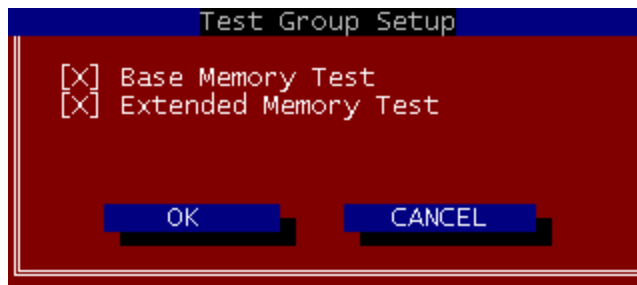

Fig 3.6
1. Click on Test_Group from the Config_Menu. Select the memory area to test from the as shown in Fig 3.6. Click< OK > to return to Main_menu. or